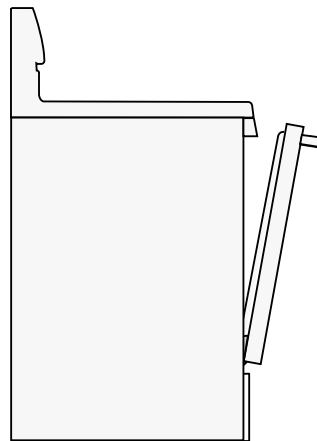

Fig. 2
3. Be sure to place food directly under upper oven element. Leave the oven door open to the **broil position** (Fig. 2).